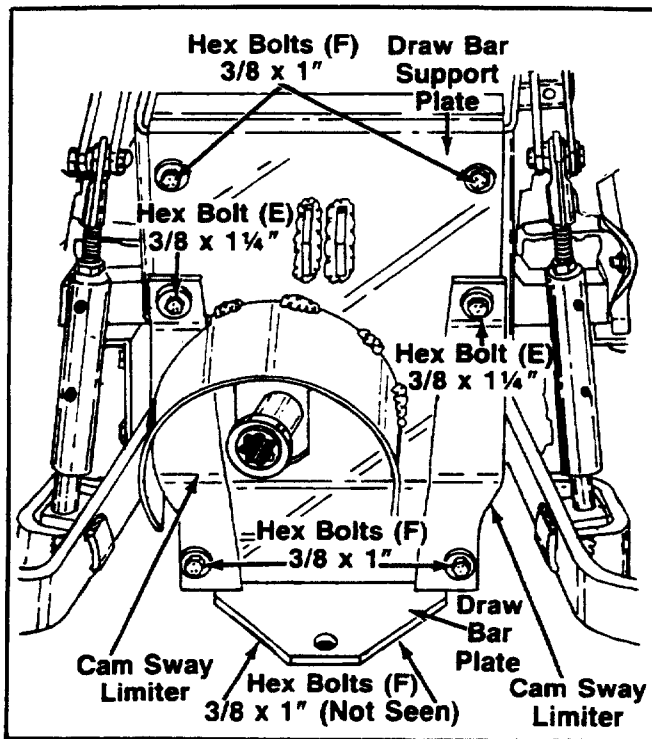

FIGURE 36.
45. Assemble the draw bar support plate to the rockshaft support plates, with two hex bolts (F) 3/8" x 1" long and lock washers (P). Use top hole only. See figure 36.
46. Place the cam sway limiters in position as shown in figure 36. Secure the top holes with 3/8" x 1 1/4" bolts (E) and the bottom holes with 3/8" x 1" bolts (F). See figure 36.
47. Secure the draw bar support plate to the draw bar plate, with two hex bolts (F) (3/8" x 1" lg.) under draw bar. See figure 36.